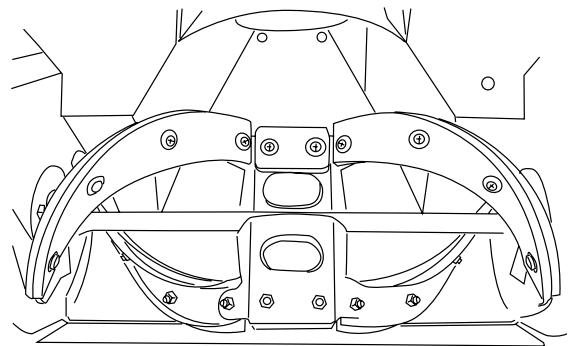

Figure 21
1. Detach the worn rubber plate assembly by removing the 2 sets of nuts and bolts used to secure it (Fig. 21, 22).
3. Install the new rubber plate assembly by tightening 2 sets of nuts and bolts on both sides (Fig. 21).